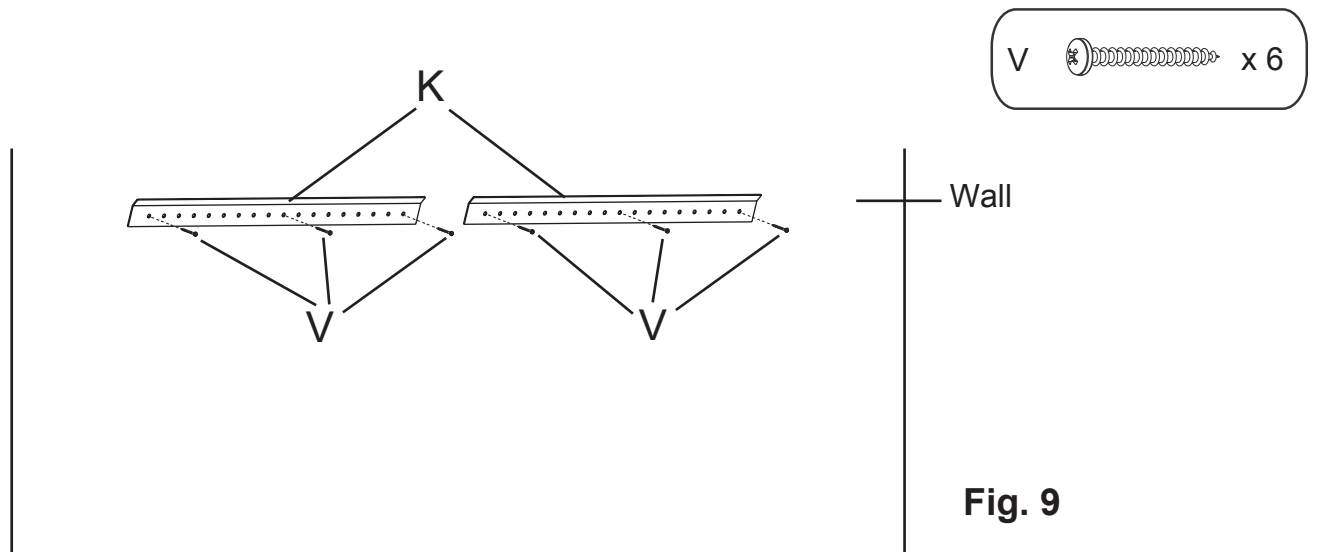

Fig. 9
9. Locate studs in the wall behind the space where you want to hang your storage shelf. Affix the Wall Brackets (K) into the studs with #8x1-3/4" Pan Head Screws (V). **IF YOU CANNOT LOCATE ENOUGH STUDS TO SECURE THE BRACKETS**, purchase the proper wall attachment hardware for your type of wall and secure the brackets according to those instructions. See Figure 9.